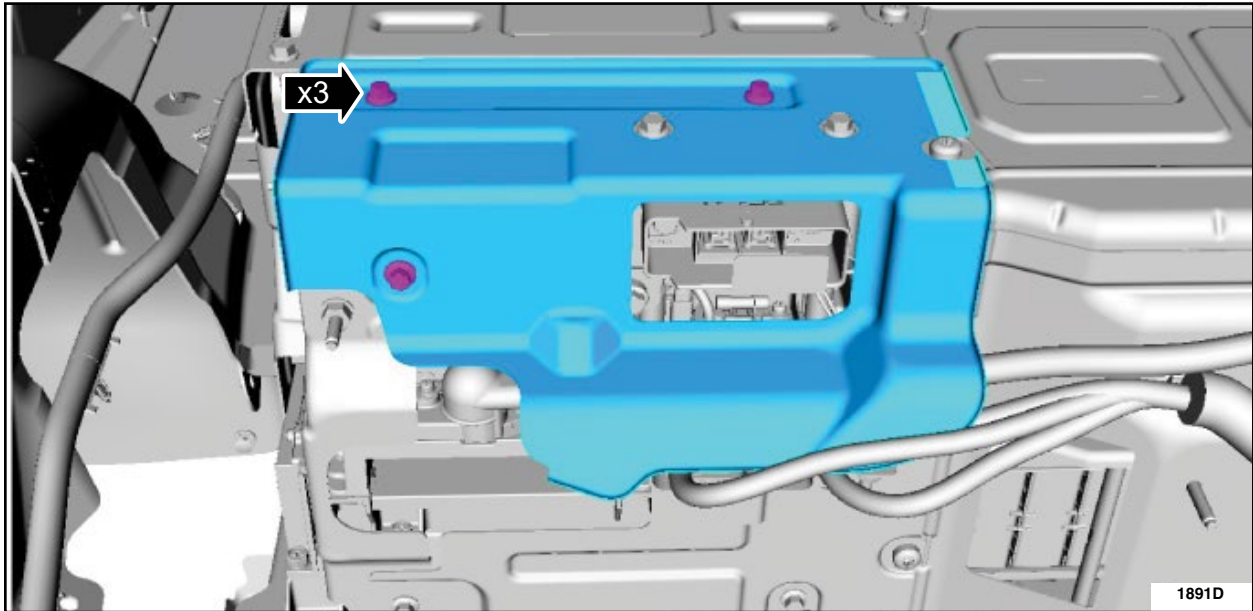

FIGURE 5
7. Remove the retainers and the jumper harness cover. See Figure 5.